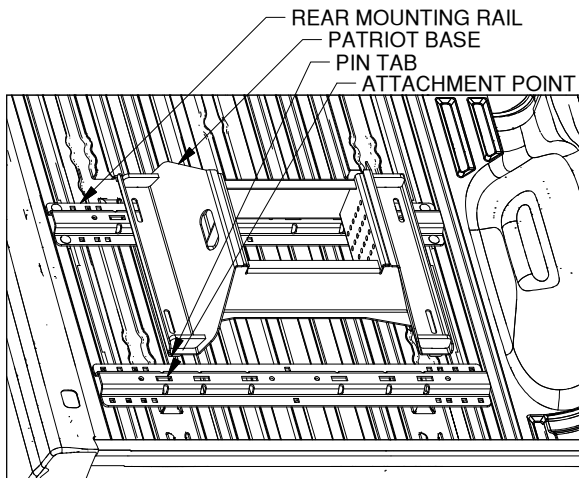

Figure C3: View into truckbed looking towards tailgate.
1. **Position the forward mounting rail.** For this step the base which will be used in the mounting rails is required. Place a mounting rail into the truck bed in front of the rear mounting rail. Place the base over the rail attachment points and carefully lower it until the pin tabs pass through the attachment points on the rear mounting rail. Attach the forward mounting rail to the forward mounting points on the base. The base should rest flat against the top of the rails. See figure C3. With the base still attached ensure that the forward rail is centered in the truck bed.